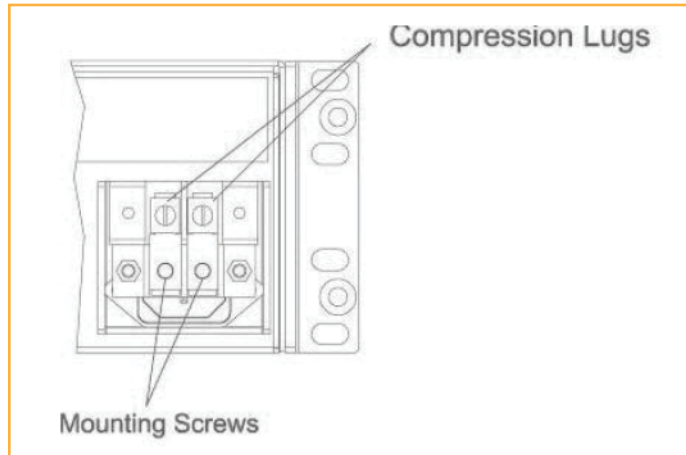

Figure 30. Locations of the Compression Lug and Mounting Screw
- 1 Remove the existing compression lugs by first removing the mounting screws as shown in Figure 30.